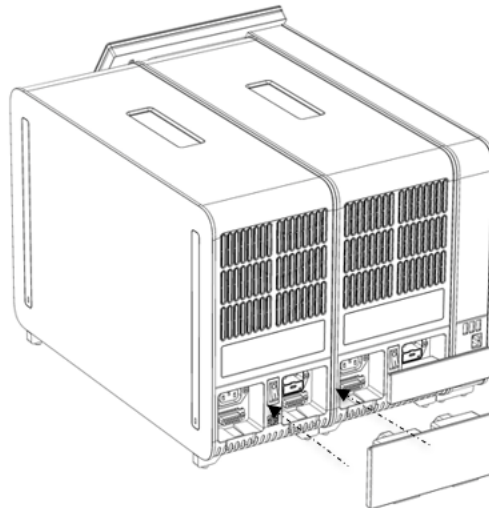

Figure 18. Connecting the Analytical/Analytical Module Bridge.
6. Connect the Analytical/Analytical Module Bridge at the back of the QIAstat-Dx Analyzer 2.0 to link the two Analytical Modules together (Figure 18).